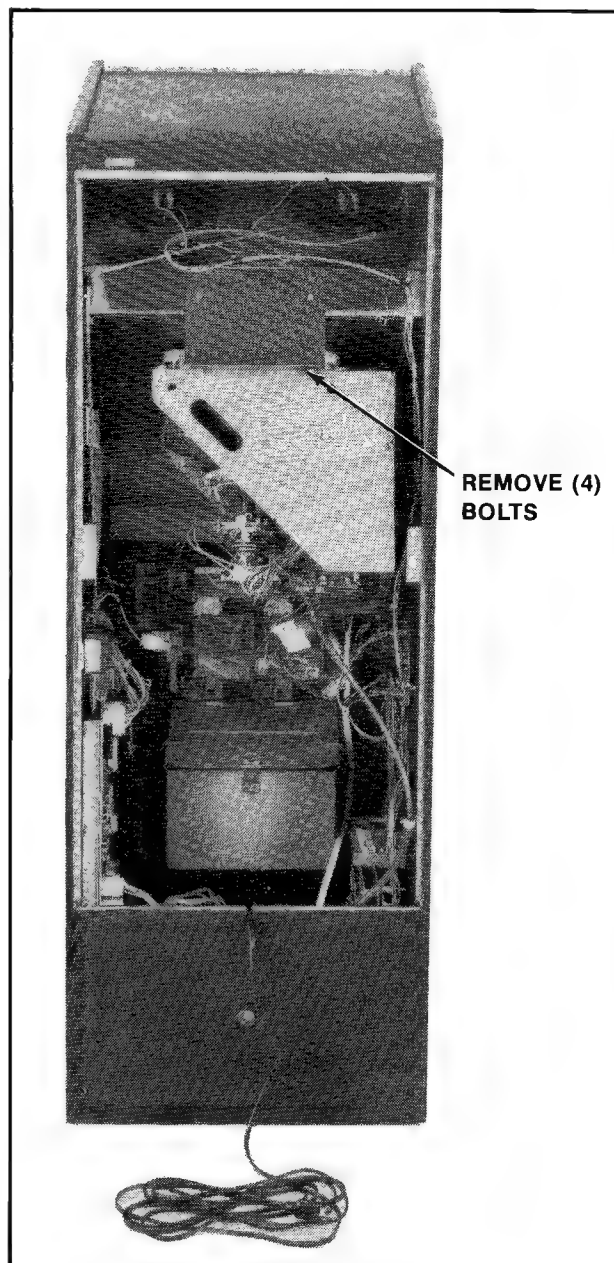

Figure 3-9 Removing the Monitor — Mini
2. MINI MODEL: See Figure 3-9.